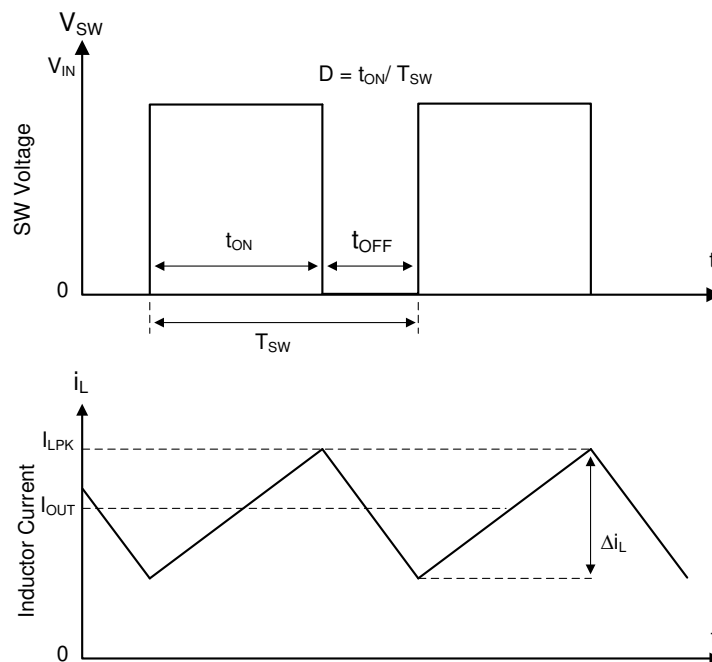

图 8-1. SW Node and Inductor Current Waveforms in Continuous Conduction Mode (CCM)
The following operating description of the LMR50410-Q1 refers to # 8.2 and to the waveforms in 图 8-1. The LMR50410-Q1 is a step-down synchronous buck converter with integrated high-side (HS) and low-side (LS) switches (synchronous rectifier). The LMR50410-Q1 supplies a regulated output voltage by turning on the high-side and low-side NMOS switches with controlled duty cycle. During high-side switch ON time, the SW pin voltage swings up to approximately V_{IN} , and the inductor current, i_L , increases with linear slope $(V_{IN} - V_{OUT}) / L$. When the high-side switch is turned off by the control logic, the low-side switch is turned on after an anti-shoot-through dead time. Inductor current discharges through the low-side switch with a slope of $-V_{OUT} / L$. The control parameter of a buck converter is defined as Duty Cycle $D = t_{ON} / T_{SW}$, where t_{ON} is the high-side switch ON time and T_{SW} is the switching period. The converter control loop maintains a constant output voltage by adjusting the duty cycle D . In an ideal buck converter, where losses are ignored, D is proportional to the output voltage and inversely proportional to the input voltage: $D = V_{OUT} / V_{IN}$.